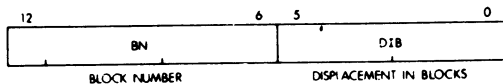

Figure 10-8 Displacement Field of Virtual Address
- The displacement field (DF) — This 13-bit field contains an address relative to the beginning of a page. This permits page lengths up to 4K words ( $2^{13} = 8 \text{ KB}$ ). The DF is further subdivided into two fields. The displacement field of the virtual address is illustrated in Figure 10-8.